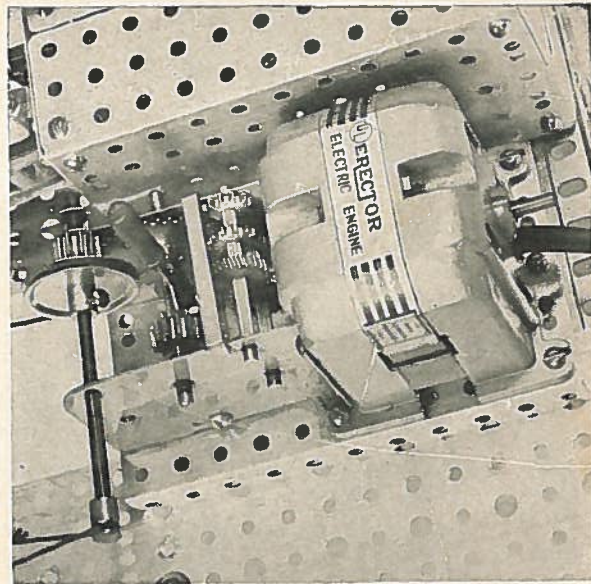

FIGURE 8
The power unit (Fig. 8) is an A-49 electric engine geared as shown. An (AT) 4" shaft is used with one P37 collar, P13-B 12 tooth pinion gear, P7-A pulley and a (DB) motor pulley. The power unit is mounted to an (MD) 2 $\frac{1}{2}$ " x 5" base plate which is mounted to the base of model as shown. Two (B) 5" girders are fastened to the underside of the base and these girders support the power unit. The driving string passes over the pulley in the power unit, over and around the flywheel, up and over the sheave pulley, then back to the power unit.